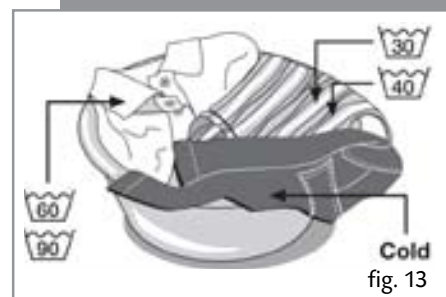

fig. 13
**Sort your clothes according to colour (Figure 13).**